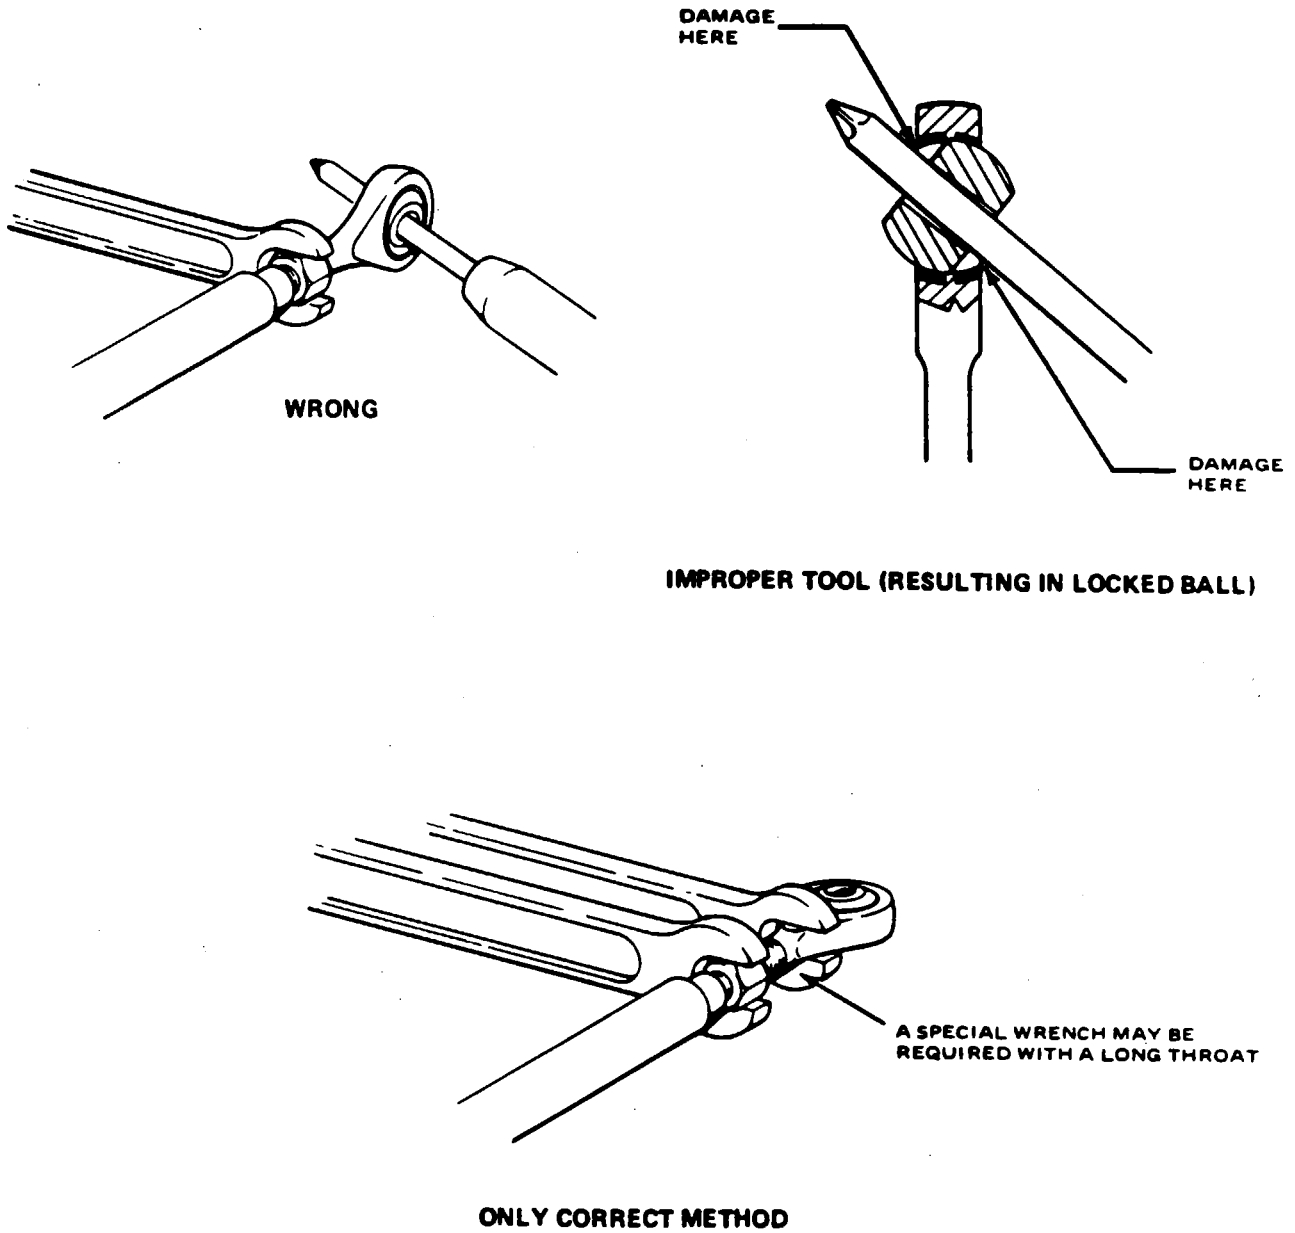

Figure 27-1. Rod End Installation Method
7. See Figure 27-1 for the proper method of adjusting rod ends to prevent possible damage and binding of bearing surface in rod end, and all pulley guard pins installed.